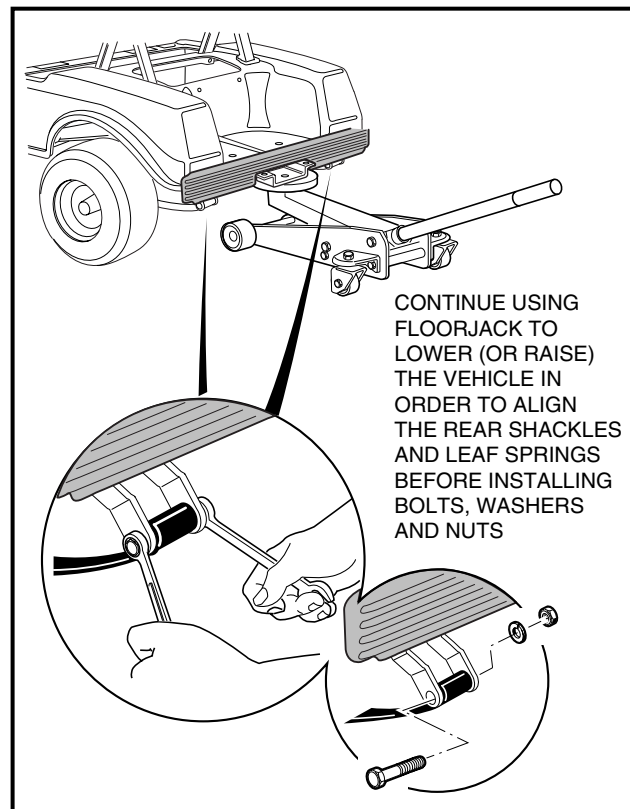

FIGURE 10-93
14. Using the floorjack, adjust vehicle height to position the leaf springs for mounting in the shackles. Then install the mounting bolts, washers, and nuts (**Figure 10-93**).